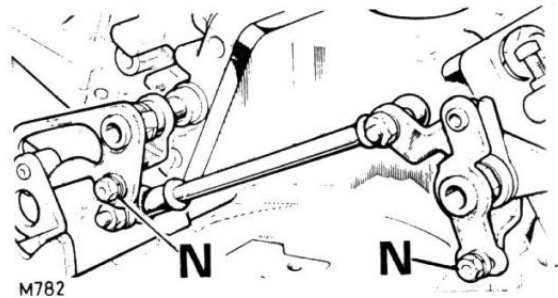

FIG. 67
11. Slacken the screws "N" securing the throttle levers on both carburettors, Fig. 67.